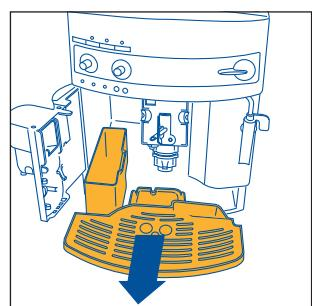

Fig.16
NOTE 7: the machine counts the number of cups of coffee made. Each 14 single cups (or 7 double cups), the  light switches on steady (chap. 12 point 3), warning the user that the grounds container is full and must be emptied and cleaned. Until the grounds container has been cleaned, the light will remain on and the machine cannot deliver coffee. To clean the container, open the service door on the front (pulling the handle, Fig. 15), the  light flashes (see para 12 point 9); remove the drip tray (Fig. 16), empty and clean. Empty and carefully clean the grounds container, making sure to remove all the residues that may be deposited on the bottom. Also dry the any drops of condensate that may have formed inside the machine under the drip tray. **IMPORTANT:** when removing the drip tray, the grounds container **MUST** be emptied, even if it is not completely full. If this is not done, when next making coffee the grounds container may fill over the maximum level and block the machine with lumps of coffee grounds.
- remove the drip tray and the grounds container (Fig. 16) and clean them;